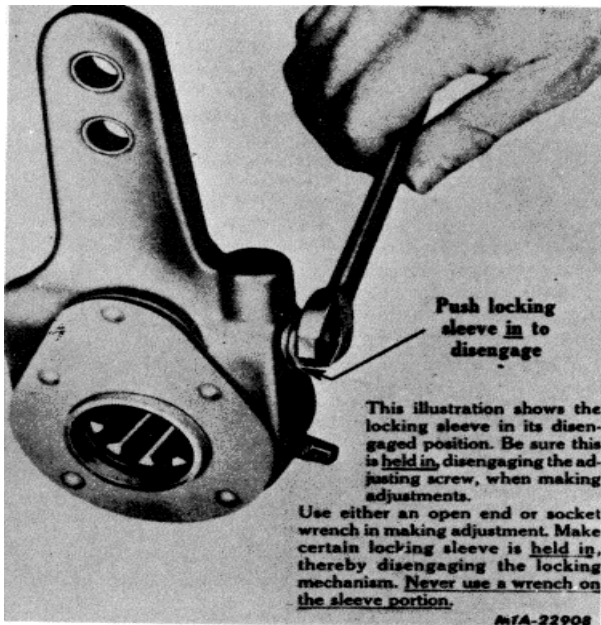

Fig. 6 Slack Adjuster Locking Sleeve on Adjusting Nut
2. Disengage locking sleeve on worm shaft or adjusting screw by depressing the spring loaded sleeve with open or box end wrench (Fig. 6).